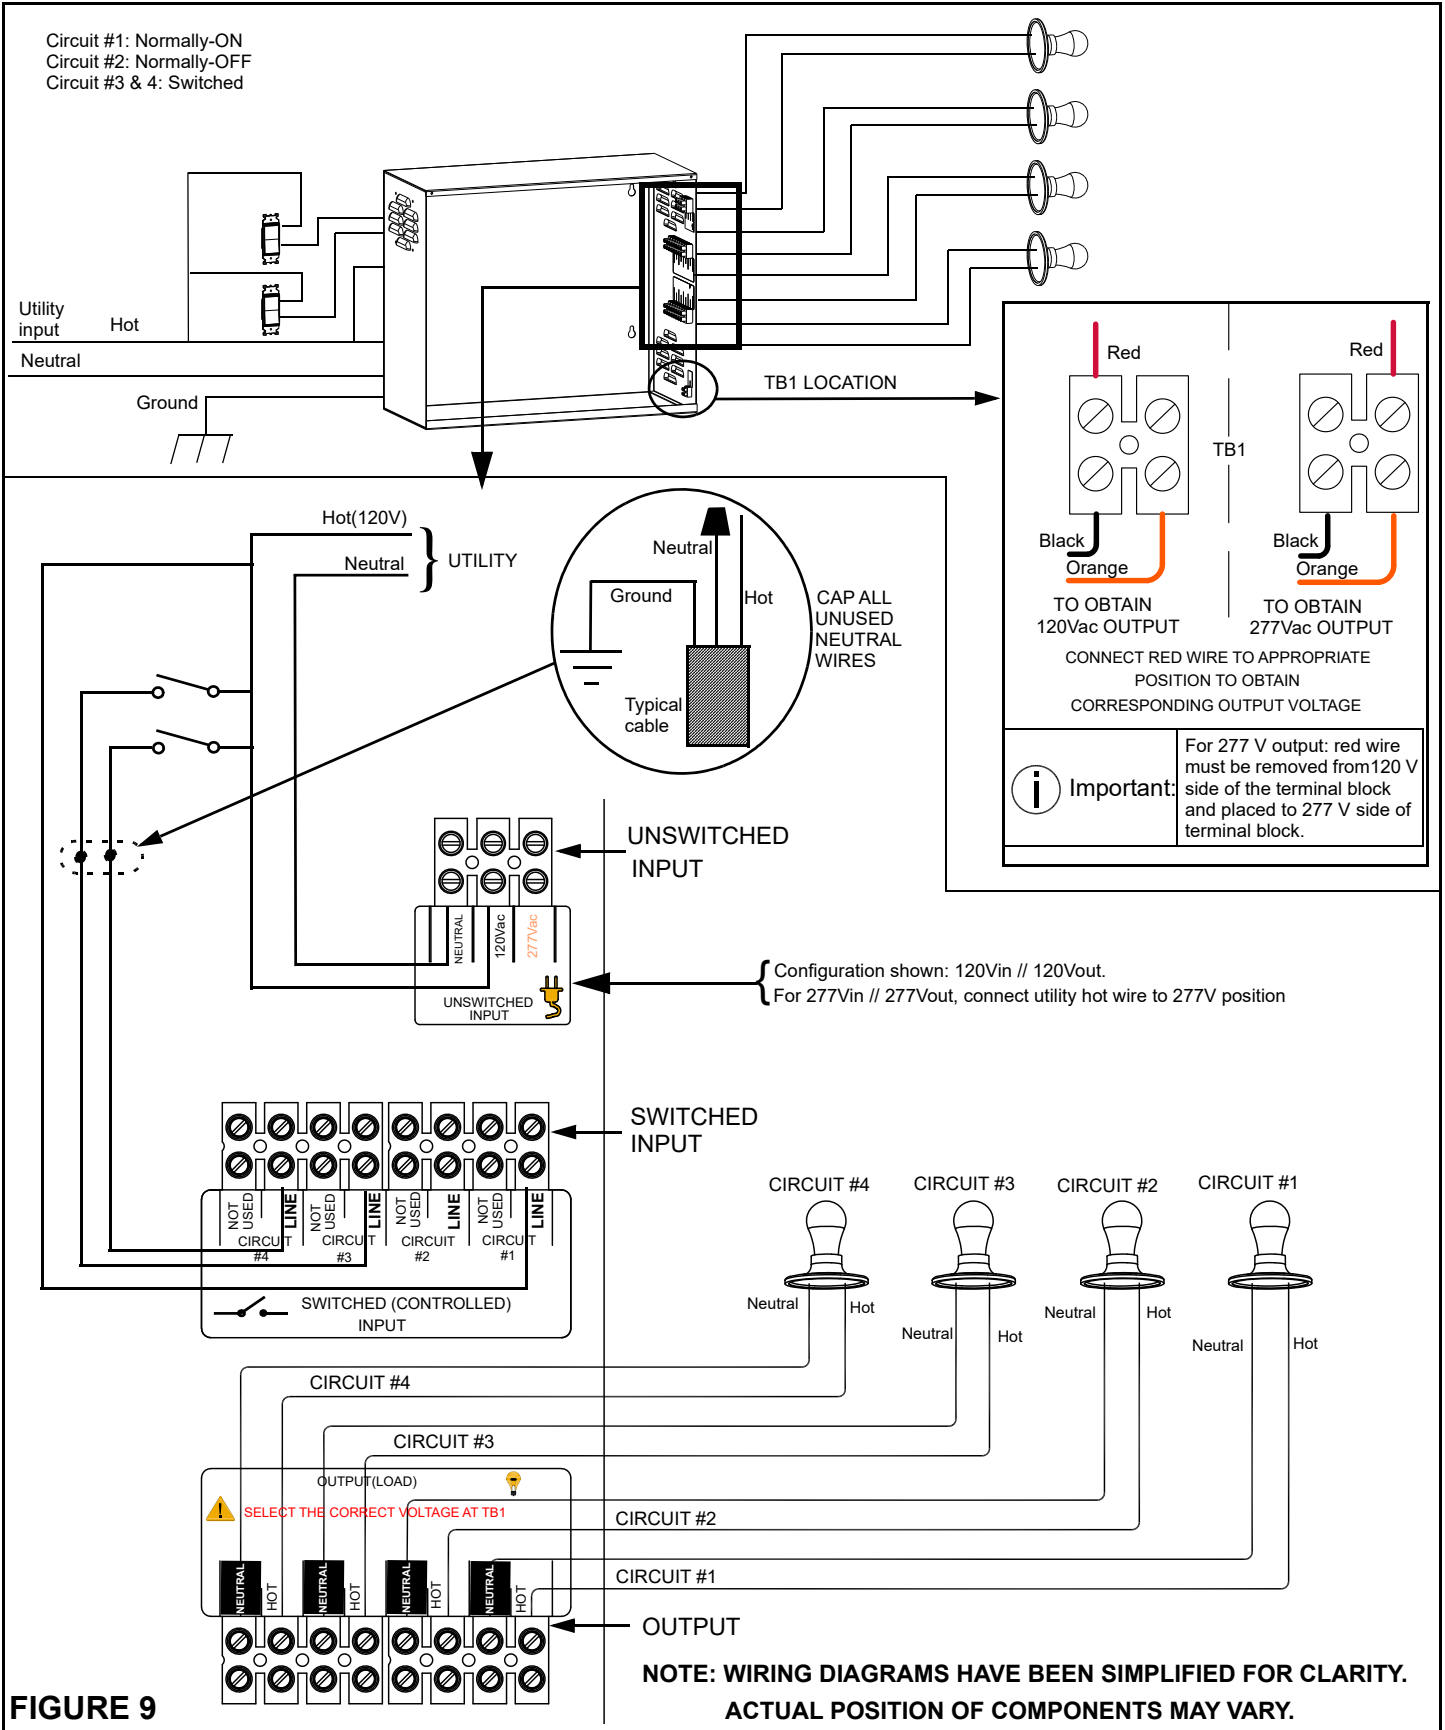

FIGURE 9
- d. **Combination of Normally-On, Normally-Off and Switched Load Operation** (Refer to Figure 9 for wiring details) - Each circuit in the Mini Inverter with the -4 option can be configured in one of the previously described modes of operation.